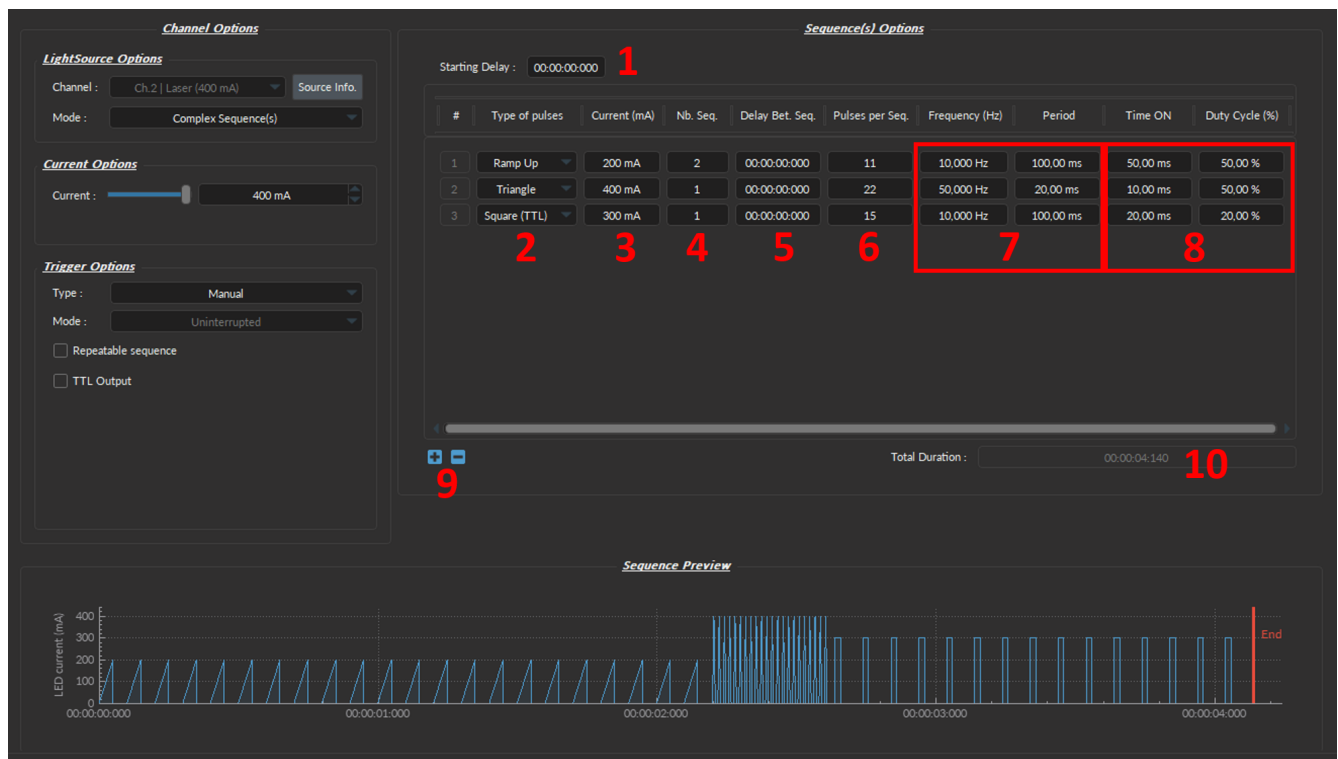

Figure 4.18: Complex Sequences Window
1. The **Starting Delay** (Fig. 4.18) sets the delay (in hh:mm:ss:zzz format) before the first pulse sequence.
2. The **Types of pulses** (Fig. 4.18) sets the pulse type. Pulses can be **Square**, triangular (**Triangle**), **Ramp up Ramp down** or **Delay**. The **Delay** pulse type is used to create a delay between different sequences.
3. The **Max Current** (Fig. 4.18) sets the maximum current (in mA) for the given sequence.
4. The **Number of sequences** (Fig. 4.18) sets the number of times that the sequence will be repeated, with a minimum of 1.
5. The **Delay between sequences** (Fig. 4.18) sets the delay (in hh:mm:ss:zzz format) between each sequence if the **Number of Sequences** is greater than 1.
6. The **Pulses per sequence** (Fig. 4.18) sets the number of pulses per sequence, with a minimum of 1.
7. The **Frequency/Period** (Fig. 4.18) sets the frequency (in Hz) or period (in ms) for the pulse sequence. These two values are linked, and when one is changed the other will adjust automatically. For example, a signal at 10 Hz (frequency) will output one pulse every 100 ms (period), whereas a pulse sequence at 0.5 Hz (frequency) will output one pulse every 2000 ms (period).
8. The **Time ON/Duty Cycle** (Fig. 4.18) sets the time (in ms) or the duty cycle (in %) for each pulse. These two values are linked, and when one is changed the other will adjust automatically. The **Time ON** must be lower than  $(1/\text{frequency}) + 0.005$  ms, while the **Duty cycle** must be below 100 %.
9. The **Sequence controls** (Fig. 4.18) allow the addition (+) or removal (-) of sequences to the spreadsheet.
10. The **Total Duration** (Fig. 4.18) displays the total time of the experiment. The different values can be *Inf* for infinite, a valid time value or *Err* if the **Time ON** value is greater than  $1/\text{frequency}$ .